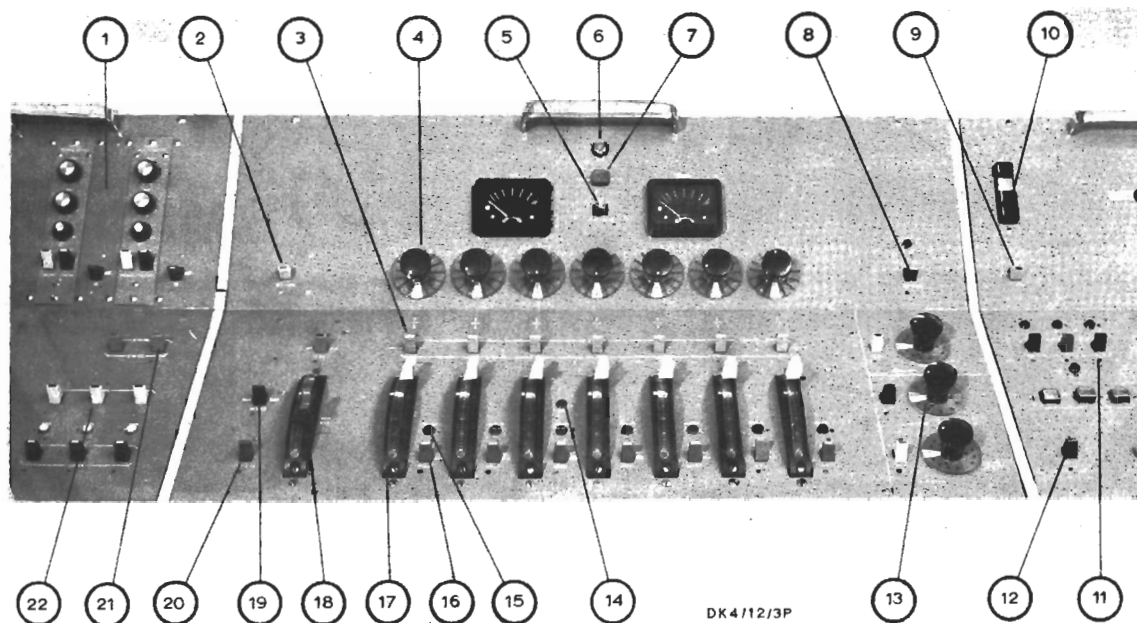

Fig. 3. Control Panel of DK4/12
### Control Panel Layout (Fig. 3)
The centre section mounts all the programme and monitoring controls. The main gain control (18 in Fig. 3) and channel faders (17) are in a line along the front of the panel. Close to the main gain control are the MGC Bypass key (19) and one of the two Talkback keys (20). To the right of each channel fader are its associated Cue/Start key (16) and Remote (replay) indicator lamp (15). To the right of channel-3 fader is the amber Clean Feed indicator lamp (14). In line with, and above, each channel fader are its associated Prehear key (3) and, on the raised part, its source selection switch (4). These 16-rotary switches are fitted with a transparent mask on which the sources are engraved. The mask is provided with a fixed backing which is coloured except for one segment against which the source in use shows. The colour of the remainder is such that the available sources are easily identified.